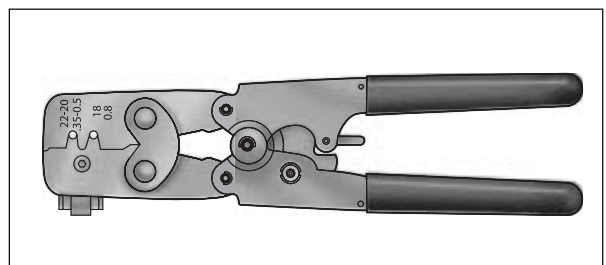

Figure B-29. Packard Micro 64 Terminal Crimper (Part No. HD-45929)
2. Obtain the Packard Micro 64 Terminal Crimper (HD-45929). See Figure B-29.